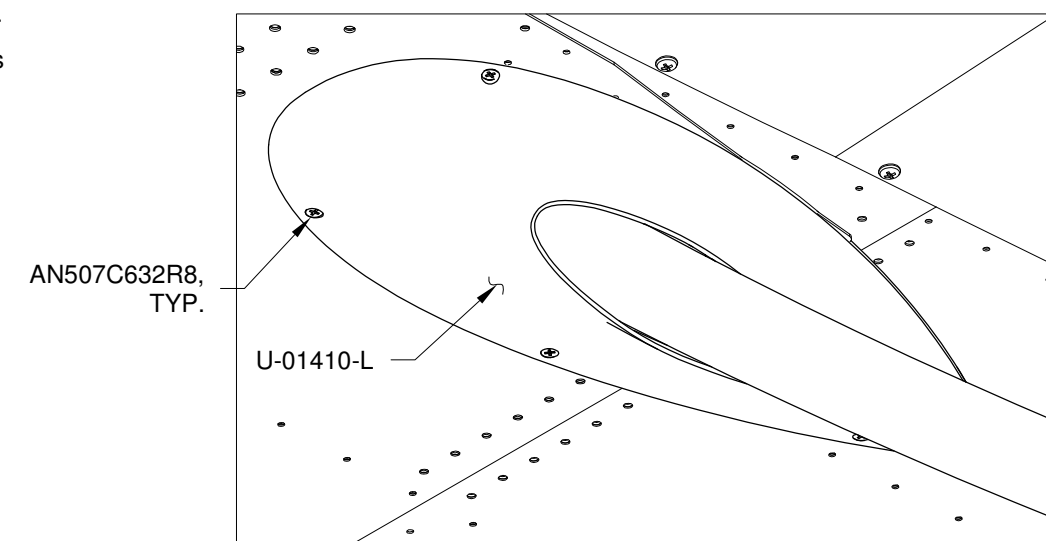

FIGURE 5: UPPER INTERSECTION FAIRING INSTALLATION
Step 6: With the main gear wheel and gear leg fairings installed, install the U-01410-L & -R Upper Intersection Fairings using the hardware called out in Figure 5.